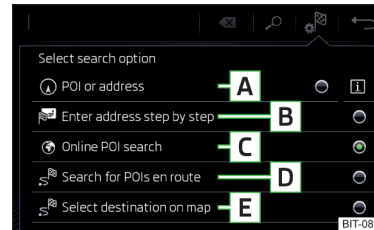

Fig. 215
Function surfaces » Fig. 215
- Then tap the function surface of one of the menu items for the destination search **A**, **C** or **D** » Fig. 215 on page 182.
- ▶ Then tap the function surface  → **E** » Fig. 215 on page 182.